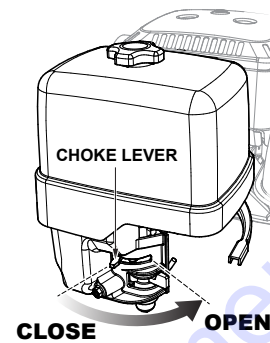

Figure 13. Engine Choke Lever (Open)
4. Place the choke lever (See Figure 13) in the **OPEN** position if starting a warm engine or the temperature is warm.